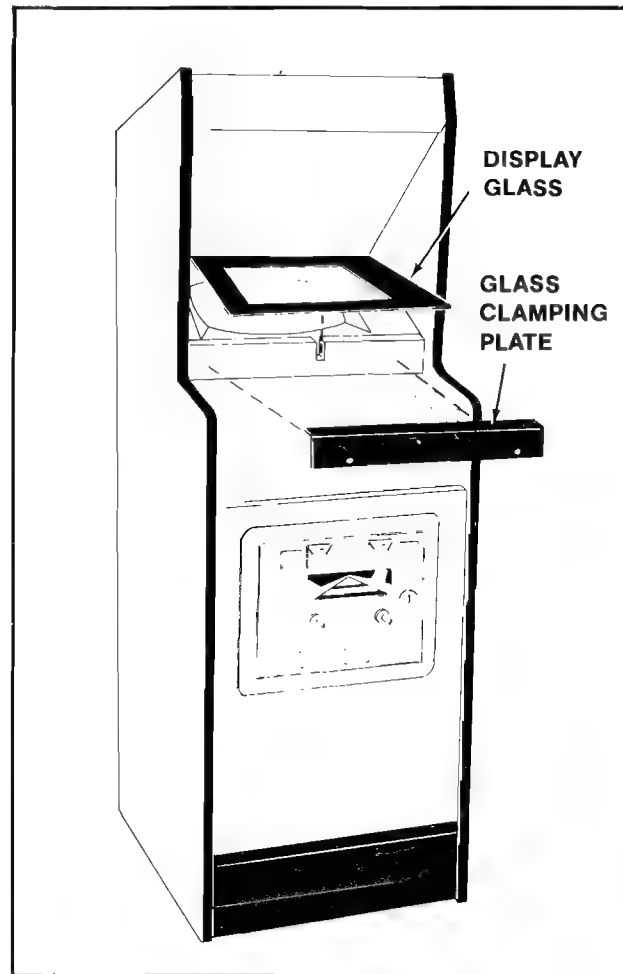

Figure 3-6 Removing the Main Display Glass & T.V. Bezel — Mini
2. MINI MODEL: See Figure 3-6.
- ☐ Remove the screws which secure the glass clamping plate. See Figure 3-6.